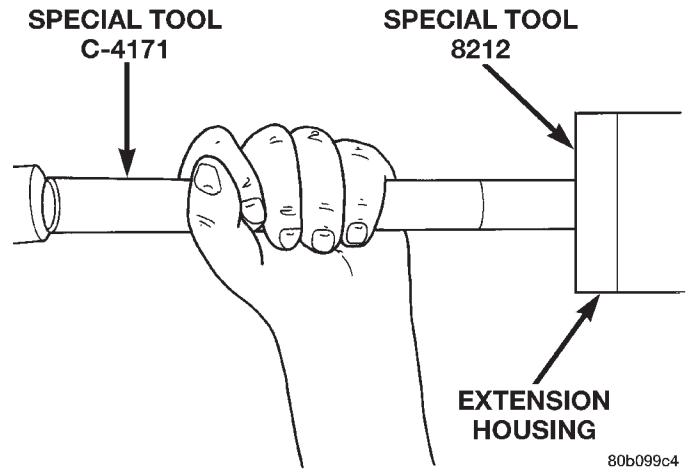

Fig. 13 Install Extension Housing Seal
- (1) Clean seal bore of extension housing of any residual sealer material from original seal.
- (2) Using Tool Handle C-4171 and Seal Installer 8212, install new extension housing seal so that the seal is located 0 ± 0.5 mm (0 ± 0.02 in.) to the face of the extension housing (Fig. 13).
- (3) Install propeller shaft. Refer to Group 3, Differential and Driveline, for proper procedures.
- (4) Check and add fluid to transmission as necessary. Refer to the Recommended Lubricant section for proper fluid requirements.
- (5) Lower vehicle.